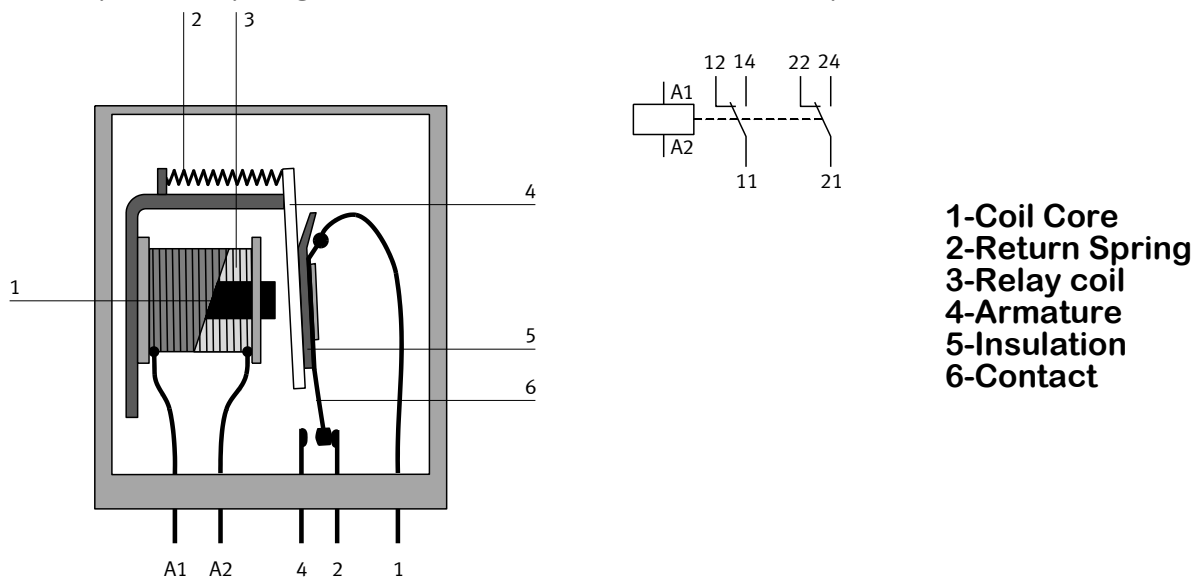

Figure 3.12: Sectional view and circuit symbol for a relay
A relay is an electro-magnetic switch that uses one electrical signal to control another. It consists of a coil with an iron core (see (3)(1) in Figure 3.12), an armature as a mechanical actuating element (4), a return spring (2) and switch contacts (6). When a voltage is applied to the solenoid coil, an electromagnetic field is generated. This causes the movable armature to move towards the coil core. The armature acts upon the relay contacts that are either closed or opened, depending on the arrangement. If the flow of current through the coil is interrupted, a spring returns the armature to its initial position.